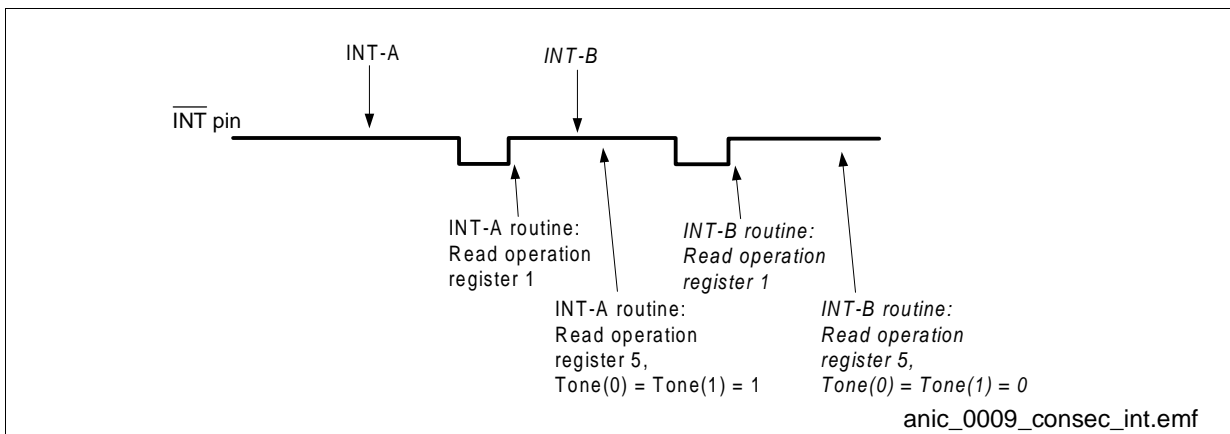

Figure 15 Example for Consecutive Tone Interrupts
When there are two consecutive tone interrupts (e.g. "INT-A" followed by "INT-B", see **Figure 15**) and INT-B happens before the interrupt service routine of INT-A could read register 5, the source of INT-B will be read together with the source of INT-A in register 5 (Bits TONE(0) = TONE(1) = 1). As reading register 5 clears the bits TONE(0) and TONE(1), the later starting interrupt service routine of INT-B can't find a source for this interrupt in register 5 (Bits TONE(0) = TONE(1) = 0). Therefore, the host must ignore the interrupt service routine of INT-B and use the values of the former routine.